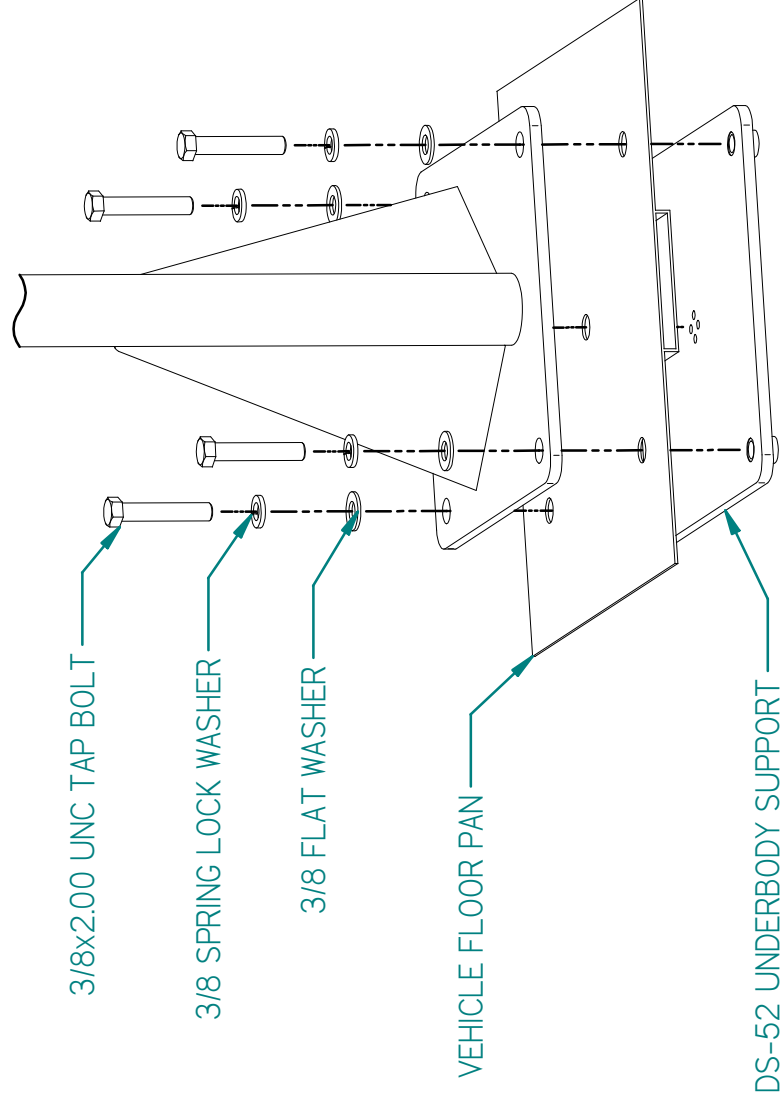

FIGURE 2
3. Position the DS-52 and secure per Figure 2.